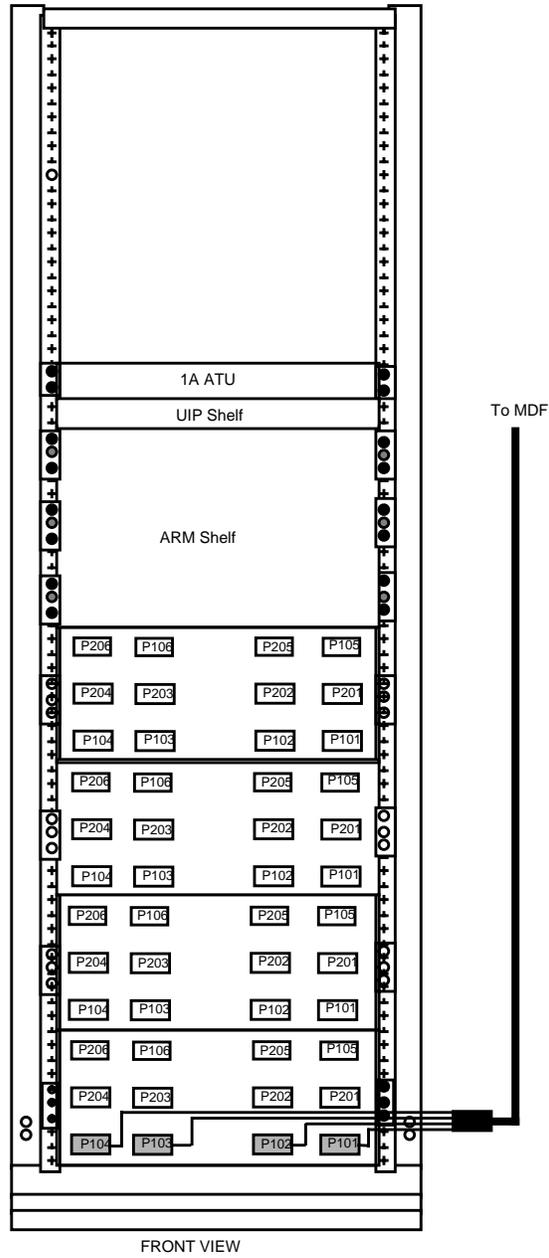

Figure 3-30. J101 - J104 Bay Cabling
Step 3: Orient the mating cable connectors so that the customer cables exit upwards towards the cable racks. Refer to Figures 3-30 and 3-36.